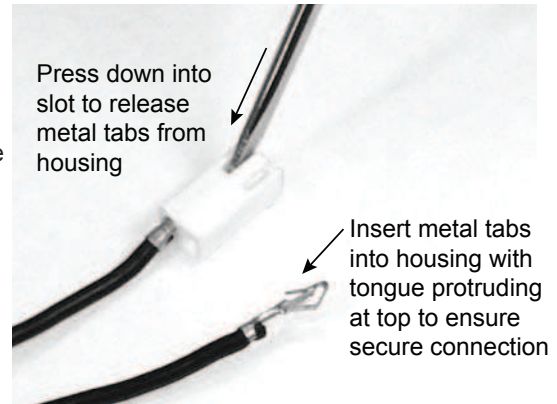

Figure 32.
6. Press a small screwdriver into the slots on the plastic female connector housing to remove the two metal slip-in tabs on the 24V power cord. See Figure 32.
9. Use a small screwdriver to raise the tongue on each metal tab so it is protruding at the top. Reinstall the tabs in the housing. Tug lightly on the cord to make sure the tab does not pull free from the housing. See Figure 32.